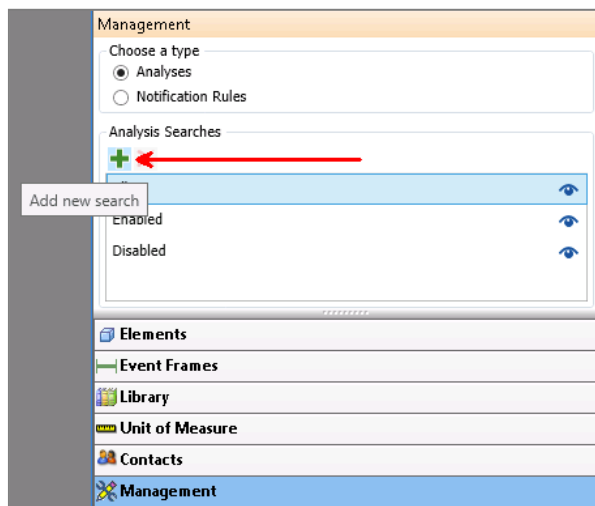

Figure 31. Add new search under Management tab
2. Click on the  symbol to add a new search (Figure 31)